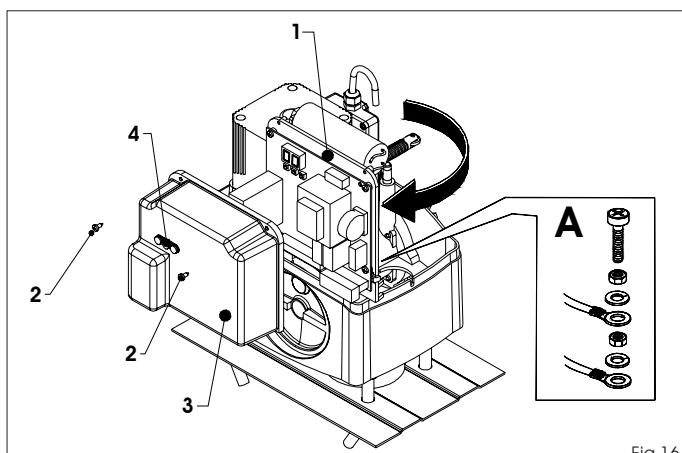

Fig.16
Connect the earth cables as shown in Fig. 16 ref.A.
In the "C" version gearmotors, the electronic control unit is fitted to an adjustable support (Fig. 16 ref. 1) with transparent lid (Fig. 16 ref. 3). The board programming push buttons (Fig. 16 ref. 4) have been located on the lid. This allow the board to be programmed without removing the lid. For correct connection of the control unit, follow indications the specific instructions.